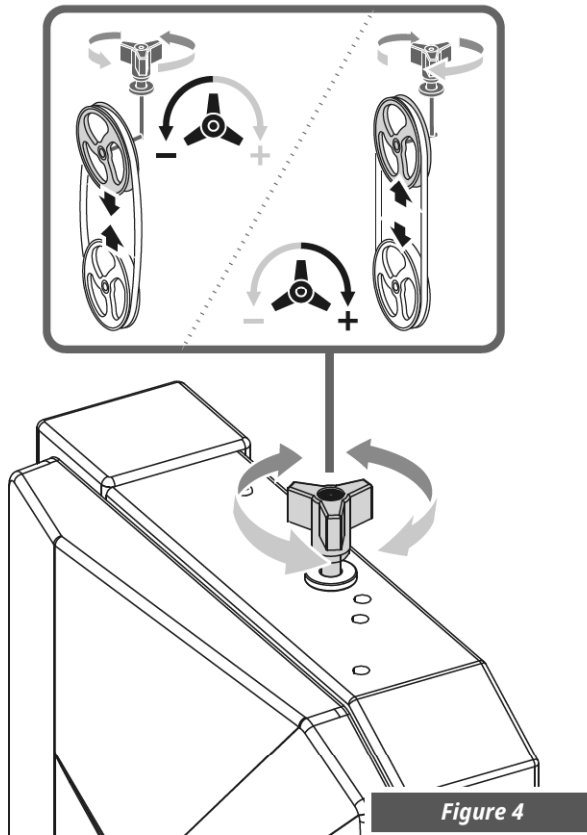

Figure 4
- Turning the setting knob counter-clockwise reduces the blade tension. ( See Figure 4 )